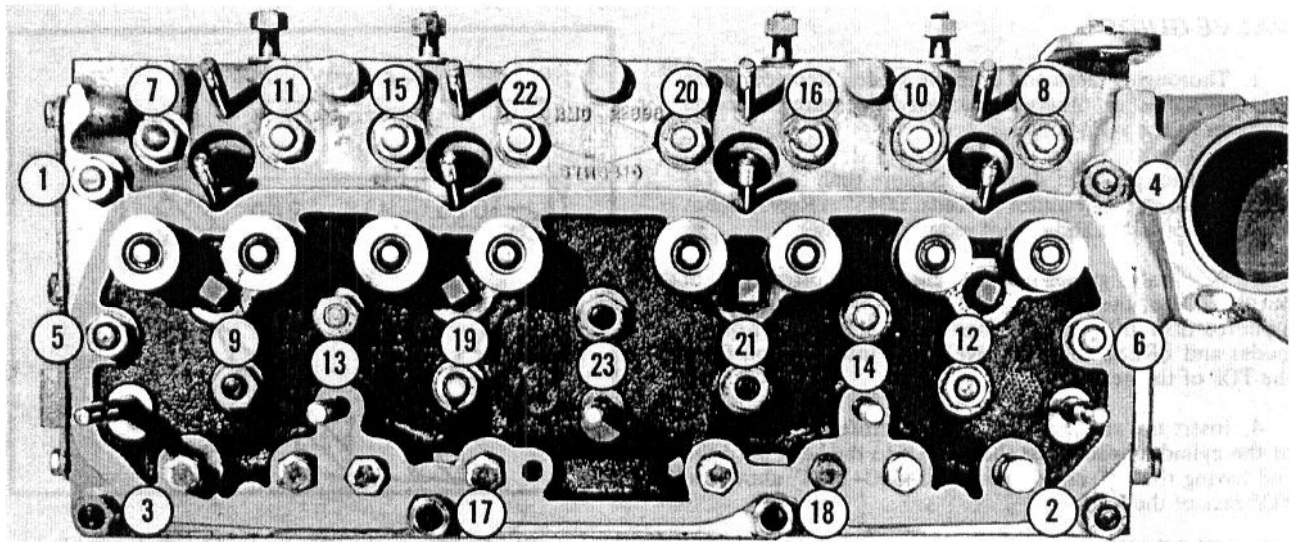

Fig. 3 - Correct Sequence for Loosening Head Nuts
6. Loosen cylinder head nuts in the order shown in Fig. 3. Remove nuts and carefully remove head.